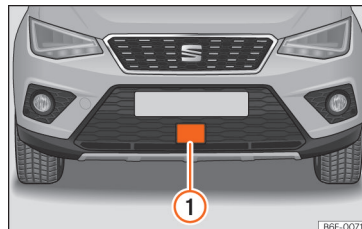

Fig. 236 On the front bumper: radar sensor.
With the vehicle stationary, switch off the engine and start it up again. Check the radar sensor visually » **Fig. 236** (for dirt, ice or knocks). If it is still unavailable, refer to a specialised workshop to have the system inspected.
»» Fig. 236 ①.
This message will be displayed to the driver if the radar sensor's vision is impaired due, for example, to leaves, snow, heavy fog or dirt. Clean the sensor »  Fig. 236.